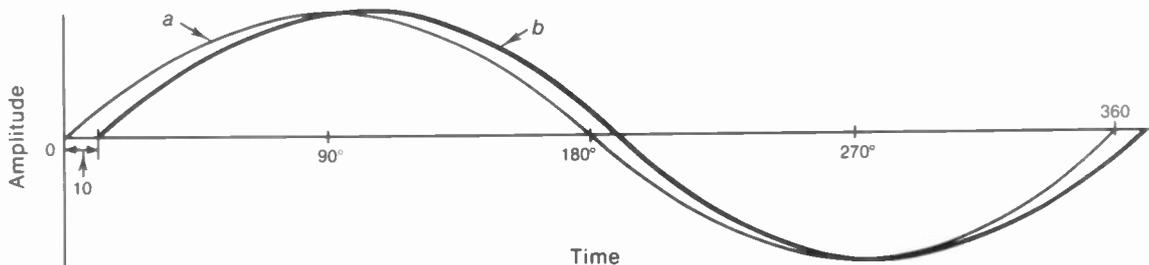

FIGURE 13-15 PHASE DELAY. WAVE *b* LAGS BEHIND WAVE *a* BY THE AMOUNT OF TIME EQUAL TO 10 OF THE CYCLE.
**Time delay.** Phase delay is equivalent to time delay. If one signal voltage is  $10^\circ$  out of phase with another and lagging, as shown in Fig. 13-15, it reaches its maximum and minimum values at a later time. The delay is the amount of time that corresponds to  $10^\circ$  of the cycle. This time varies with the frequency. For a signal voltage having a frequency of 100 Hz, it takes  $1/100$  s for one complete cycle of  $360^\circ$ . The amount of time equivalent to  $10^\circ$  in the cycle is  $10/360 \times 1/100$  s which is approximately 0.000278 s or 278  $\mu$ s. In this time the scanning beam can be displaced in a vertical direction by more than four lines.